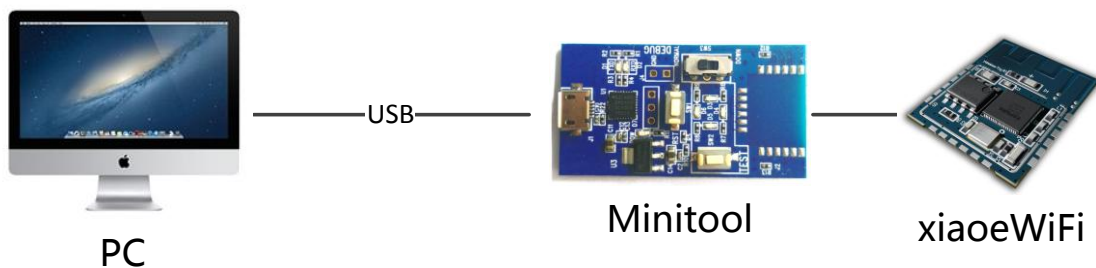
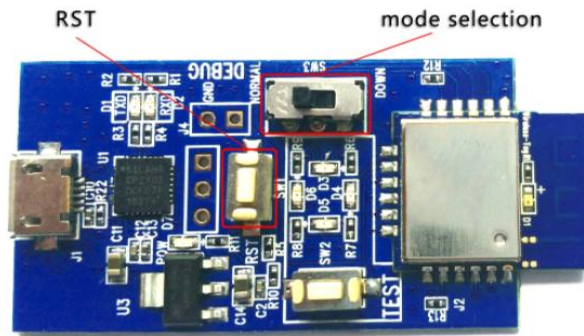

Figure 3.1 Test Logic Diagram
Figure 3.2 Physical Map of Test Board
- 1、 To build test environment according to figure 3-1, figure 3-2
2、 Use jumped test board J1, and press the reset button, please refer to figure 3-2: